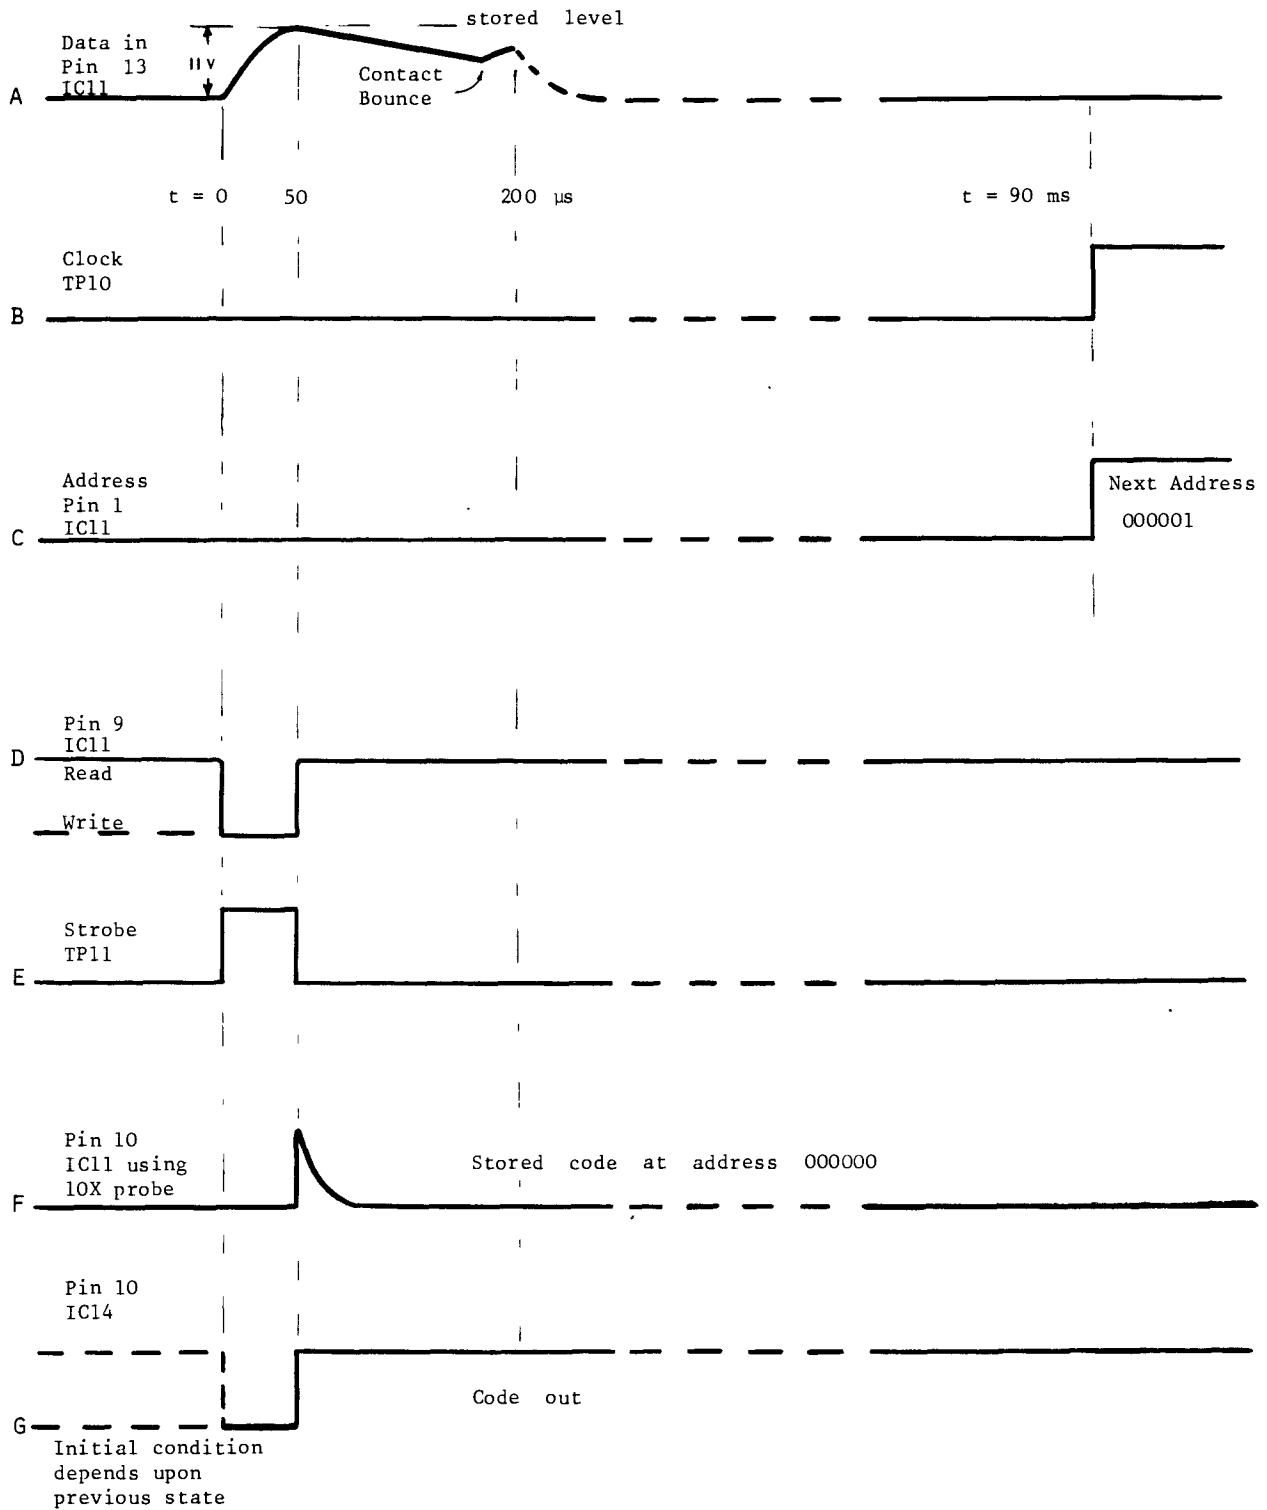
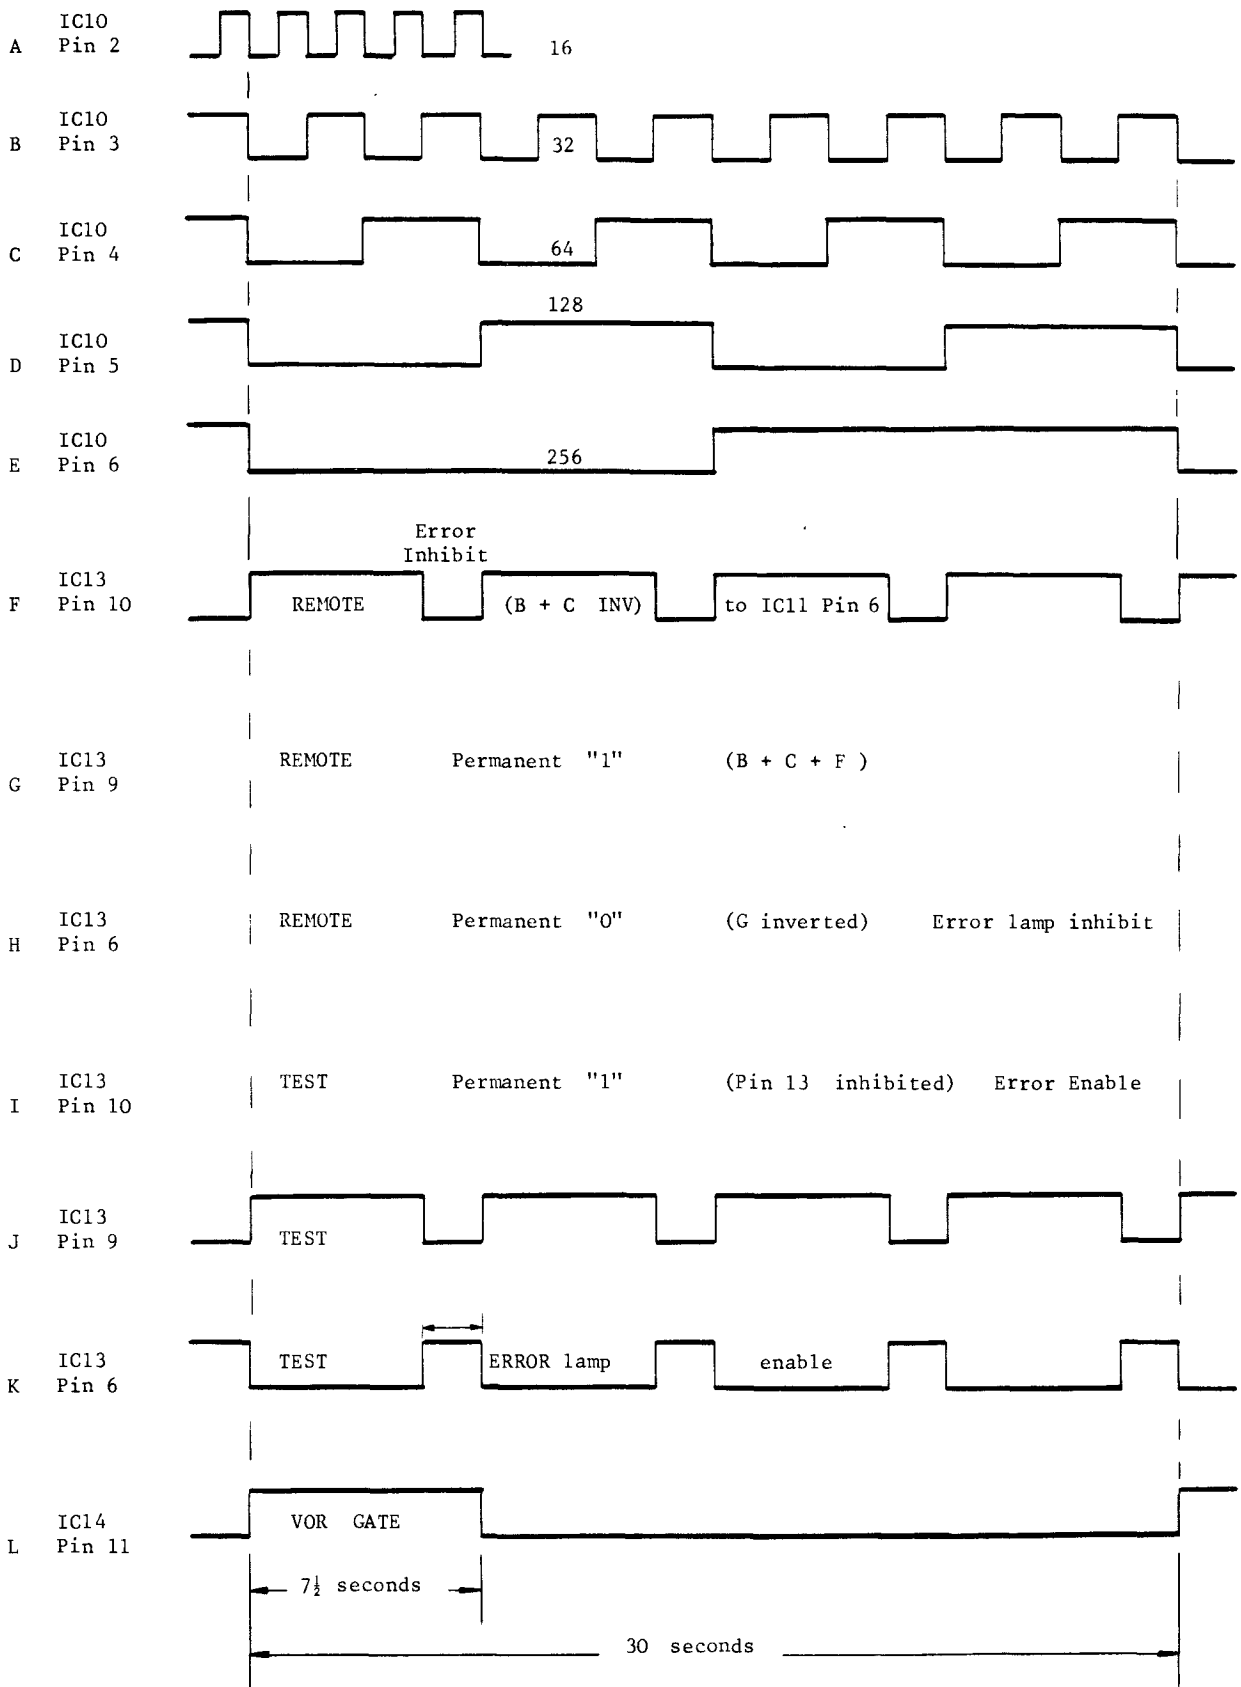

Fig.2. Timing diagram for entry of "1" at  $t = 0$  (after reset)
Fig.3. Clock timing diagram
9. The next pulse from IC10 (a) changes the address by one digit (Fig 2 B and C), and also resets the code bistable (IC14 pin 6). The pulse which emerges from IC11 pin 10 to unset the code bistable should a "1" be stored at this address also, occurs on the trailing edge of the STROBE pulse, (compare waveforms Fig 2 E and F). Should a "0" be stored at the address, no pulse leaves IC11, the coding bistable remains set, and TR34 remains cut-off, extinguishing the yellow lamp D38.
11. The description in (5) to (10) assumes that the ERROR switch, S30, is in the TEST position or S608 selecting the Unreliability Code. In the TEST position, pin 13 of IC13 is earthed. This pin is one input of a three input NAND, whose output, pin 10, is connected to pin 6 of IC11. Pin 6 of IC11 is an enable pin and with a "1" present, the memory is fully accessible.
12. With the ERROR switch at REMOTE, S608 at normal (and assuming that the remote circuit has not also earthed the connection due to a fault in the TACAN beacon equipment), pin 13 of IC13 is permanently enabled from the +14V supply rail via R22 (100K). The other two inputs cycle according to waveform F (figure 3), whence it will be seen that 16 bits of the memory become suppressed, (but not erased). These bits contain an error code to be sent after the call-sign in the event of the TACAN station being temporarily unmonitored over the full range of TACAN parameters.
11. The description in (5) to (10) assumes that the ERROR switch, S30, is in the TEST position or S608 is selecting "Unreliability Code". In the TEST position, pin 13 of IC13 is grounded. This pin is one input of a three input NAND, whose output, pin 10, is connected to pin 6 of IC11. Pin 6 of IC11 is an enable pin and with a "1" present, the memory is fully accessible.
12. With the ERROR switch at REMOTE, S608 at normal (and assuming that the remote circuit has not also earthed the connection) pin 13 of IC13 is permanently enabled from the +14V supply rail via R22 (100K). The other two inputs cycle according to waveform F (figure 3), whence it will be seen that 16 bits of the memory become suppressed, (but not erased). These bits contain an error code to be sent after the call-sign in the event of the TACAN station being temporarily unmonitored over the full range of TACAN parameters.
13. In a similar manner, with S30 at TEST (or when signalled whilst at REMOTE), pin 1 of IC13, (one input of a three input NAND), is permanently enabled by IC13 pin 10. Hence the other two pins, 8 and 2, cycle, yielding waveform J (Fig 3) at the output pin 9. This is inverted and causes TR31 to conduct for the 16 bits ERROR period, lighting the ERROR lamp D35 (Fig 3K).
14. With S30 at REMOTE, and normal operation, IC13 delivers an inverted edition of waveforms 3 and 4 (waveform F, fig 3) to IC13 pin 1 at the same time as pins 8 and 2 of IC13 are receiving the normal waveforms 3 and 4. The net result is that IC13 remains inhibited, and the "1" output, inverted to become "0", cuts off TR31, inhibiting the ERROR lamp (Fig 3 H).
15. Waveform L (Fig 3) is derived from the 128 and 256 outputs of IC12 combined, and goes to three places:
20. The initiating pulse from C38 also passes via the delaying circuit R34 (4.7K) C31 (2200pf) to pin 13 of IC11, (waveform A, fig 2) reaching it slightly after the previous operations. This allows a "1" to be injected into memory, and this is also read out from pin 10 of IC11 (waveform F, Fig 2) to set the coding bistable to the "1" state, causing the yellow "1" lamp to light.
21. Pressing the "0" button similarly causes C38 to discharge but now the pulse passes only via C33 to perform the operations described in (19). The path to R34 is inhibited by the diode D36, which is reverse biased by the pulse. Hence no potential is injected into the memory data input, and IC11 stores a "0" at that address.